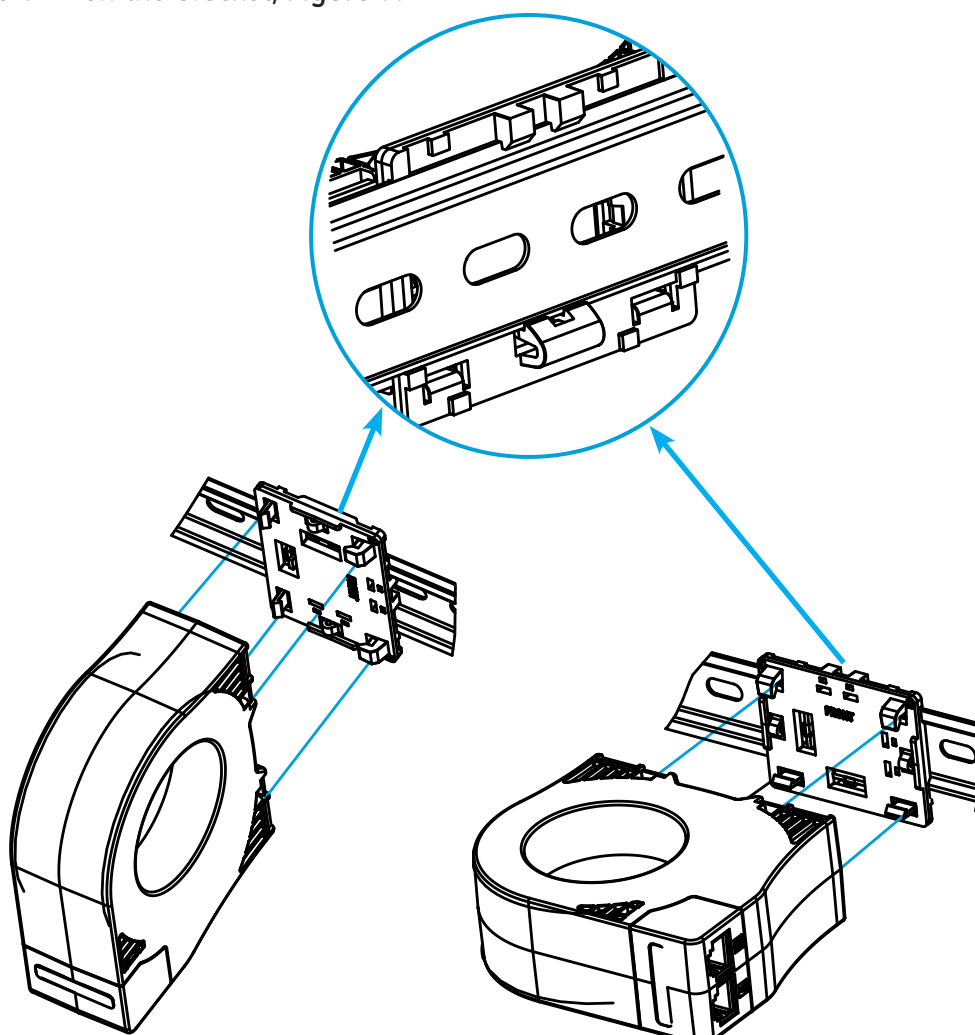

Figure 7: Installation on a DIN rail.
- 1.- Attach the bracket to the DIN rail. Be sure the side marked FRONT is visible. The bracket can be installed in 2 ways, depending on how the TDB is to be positioned, Figure 7.
- 2.- Mount the TDB on the bracket, Figure 7.